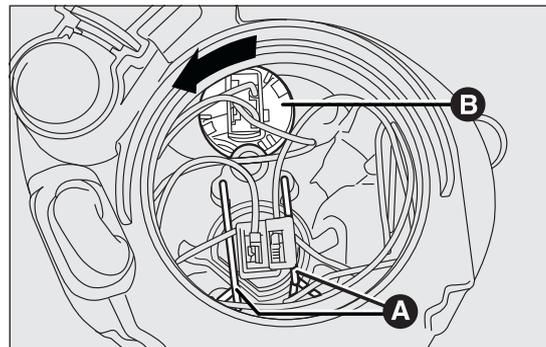

fig. 114
- release the two bulb holding clips A fig. 114;
- turn the bulb holder B fig. 114 anticlockwise and remove it;